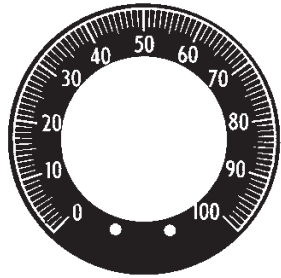

Figure 2-1. Calibration Scale Ring
3. Install a calibration scale ring (Figure 2-1) and replace the pointer in the indicator, setting the pointer at zero. Note: For an exact zero setting, hold the hexagon hub with a wrench and carefully slip the pointer on its hub until it points to zero graduation.